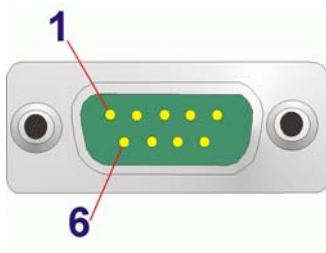

**Figure 3-22: Serial Device Connector**
**Step 2:** **Insert the serial connector.** Insert the DB-9 connector of a serial device into the DB-9 connector on the external peripheral interface. See Figure 3-22.